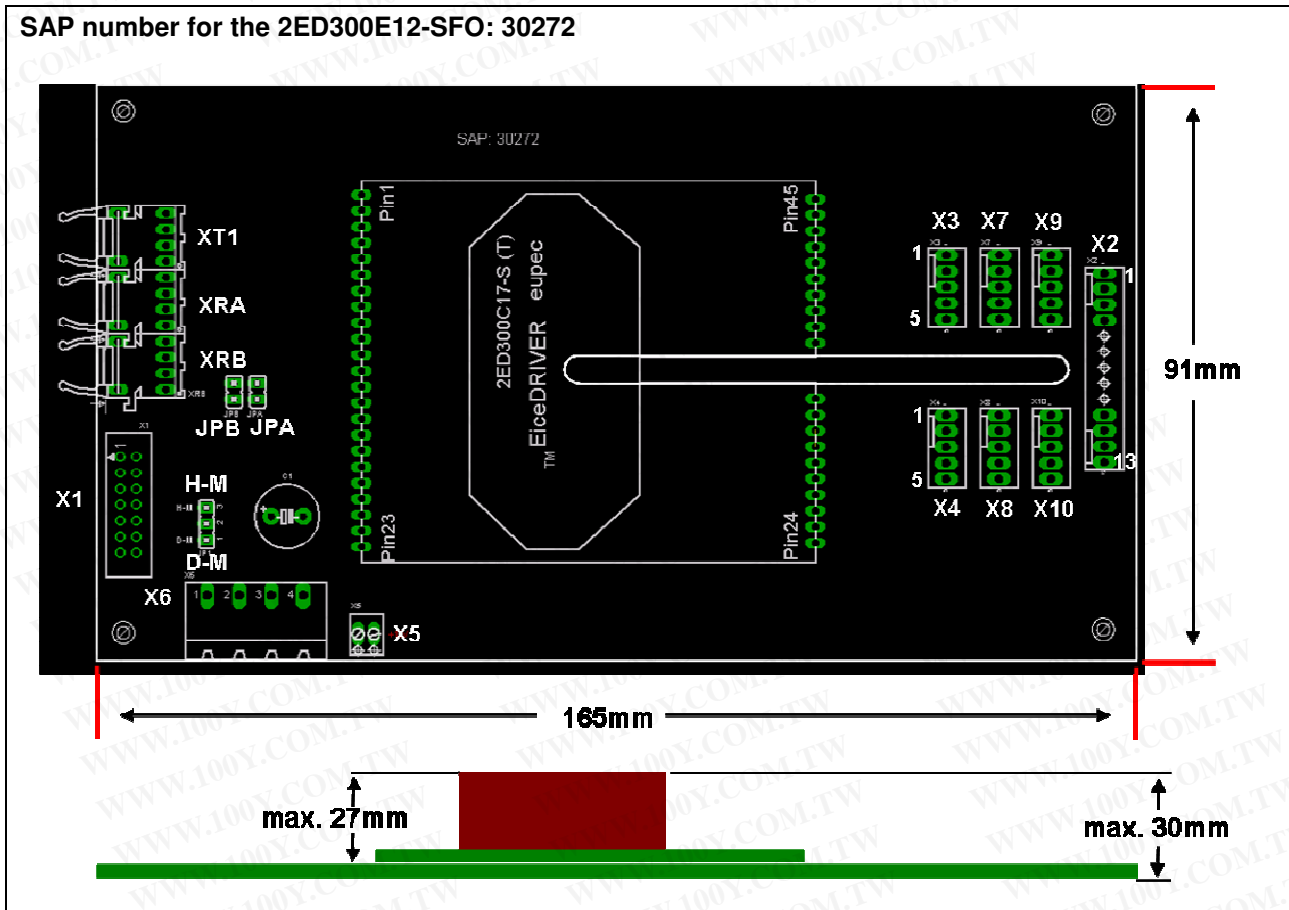

Figure 3 Dimensions of the 2ED300E17-SFO
The 2ED300E17-SFO outline assembled with driver is shown in Figure 3.
Electrical interface is simply activated by applying suitable signals¹ to appropriate pins in connector X1 as described in chapter 2.4, Table 4 and Table 5. Jumpers JPA and JPB visible on Figure 3 in that mode must be open.
When IGBT is driven using optical interface the fiber optic cables should be connected to receiver XRA in order to drive channel A and respectively XRB to drive channel B. Jumpers JPA and JPB in that case must be closed (Figure 3). No electrical signals except power supply connected to X1 are needed. Other connections should be removed. Keeping power supply connected to X5 or X6 and leaving X1 completely unconnected seems to be the easiest solution.
- Direct mode – means that both channels A and B are working accordingly to PWM signals. It is possible to switch on both channels A and B at the same time. This operation mode can be activated by setting the JP1 jumper on position marked as D-M (shorting pins 1 and 2 on Figure 3). When jumper JP1 is used there is no need to short X1.12 to GND of power supply
- Half-bridge mode is especially useful when IGBTs are driven in half bridge configuration. By proper selection of capacitor values C4 and C5 the required dead time between channels A and B can be provided. This operation mode can be activated by setting the JP1 jumper on position marked as H-M (shorting pins 2 and 3 on Figure 3). When jumper JP1 is used there is no need to short X1.12 to V_{DC}. Table 8 shows how dead time depends on these capacitors value. The dead time with not connected capacitors is 1,6µs.